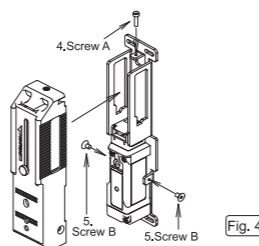

Fig. 4
- Install the switch cover on the mounting bracket, and fasten using the Screw A and two Screws B (Fig.4).